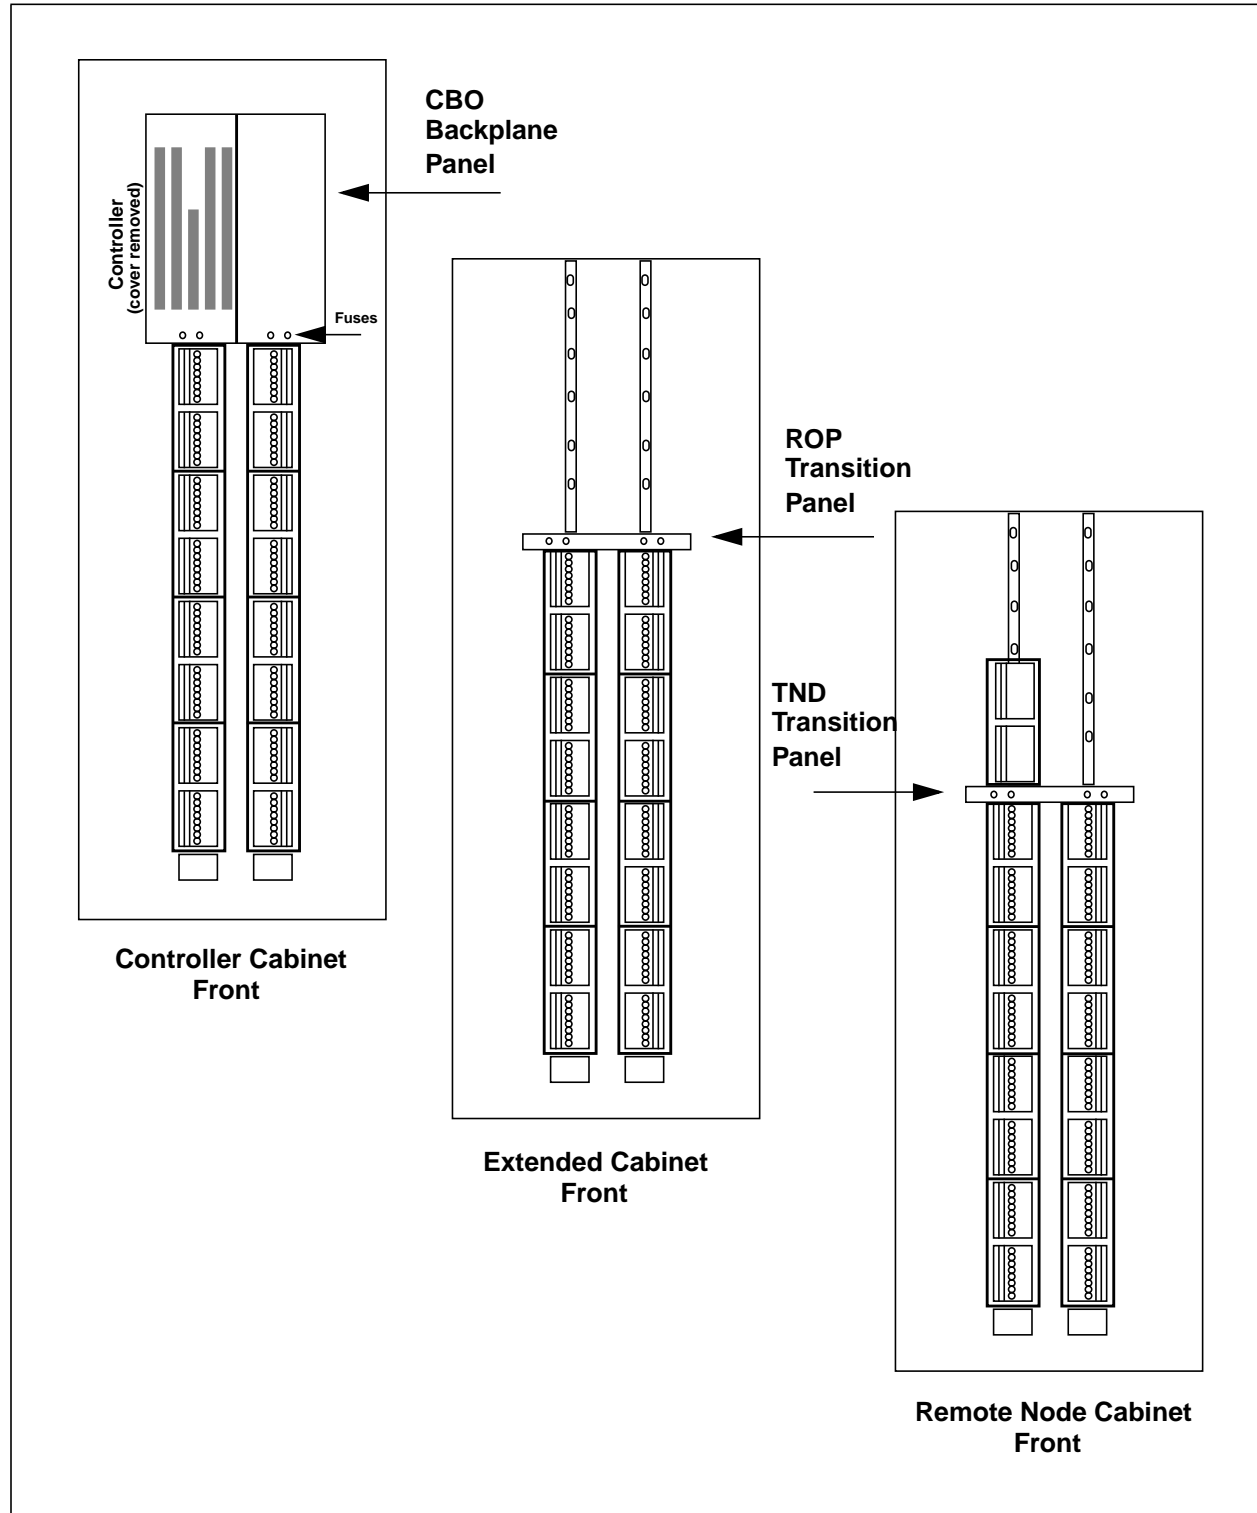
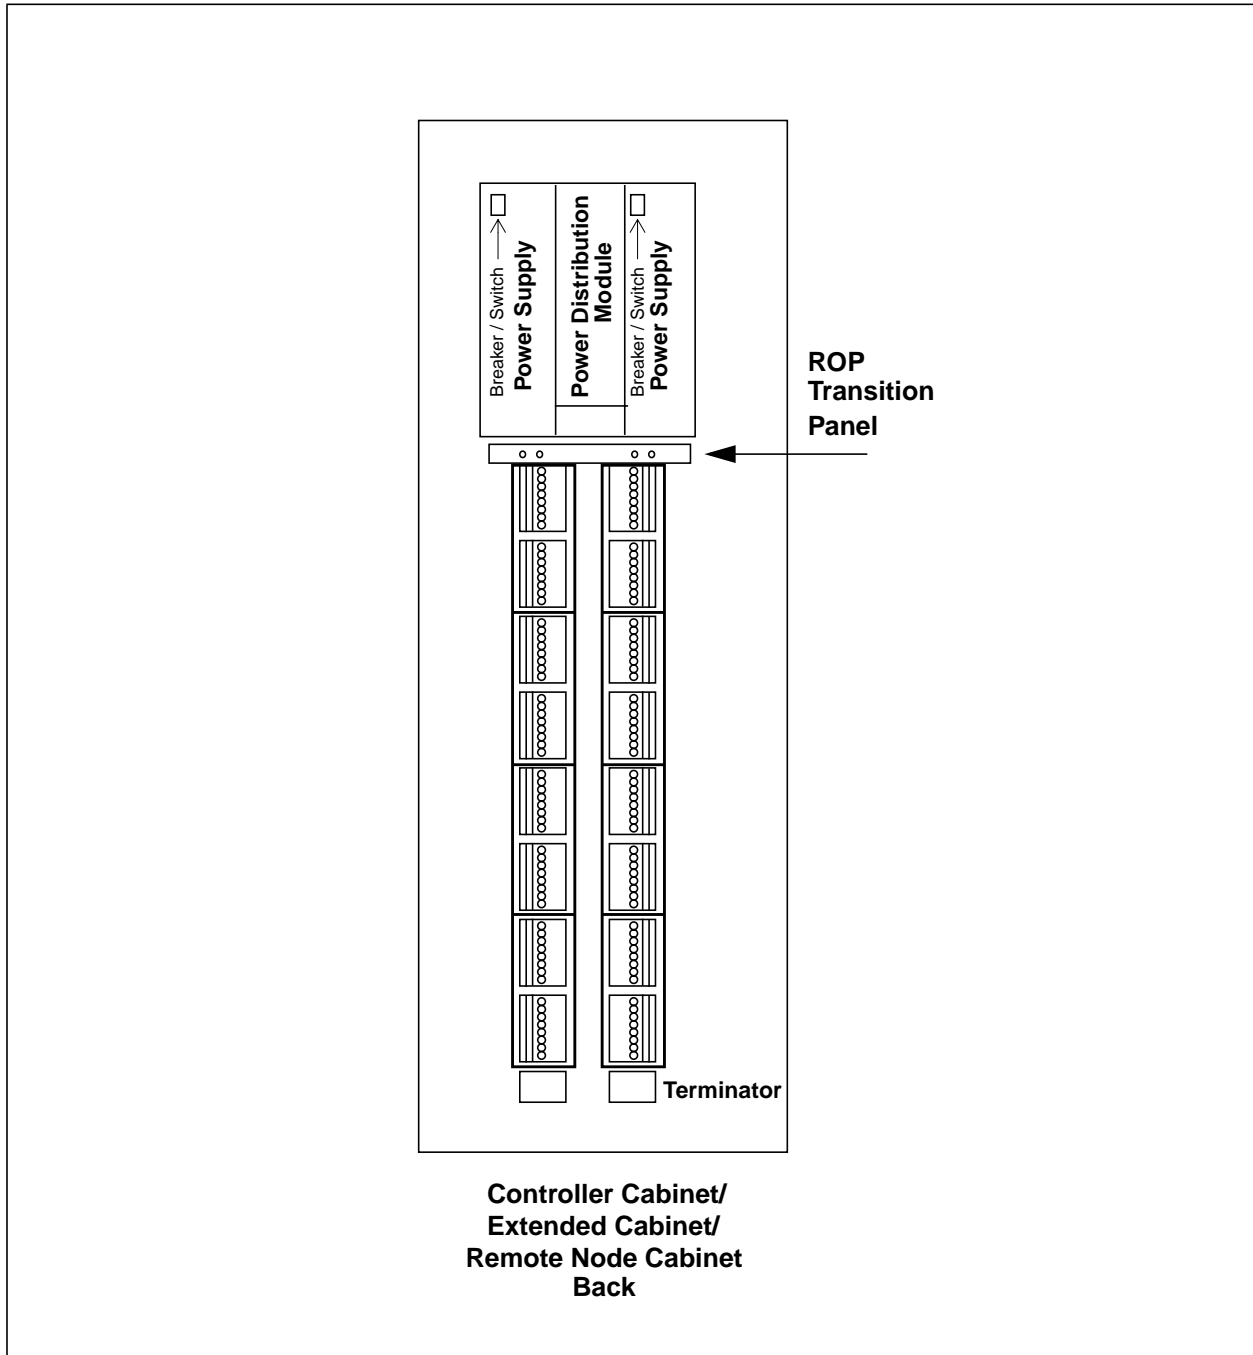

Figure D-1. Locations of CBO, ROP, and TND Cabinet Panels
Figure D-2. Location of ROP Panel in Cabinet Backs
1. Identify the specific I/O branch to which the Ovation I/O module is assigned and the back panel (CBO) or transition panel (ROP or TND) associated with the I/O branch (see Figure D-1 and Figure D-2 for panel locations).